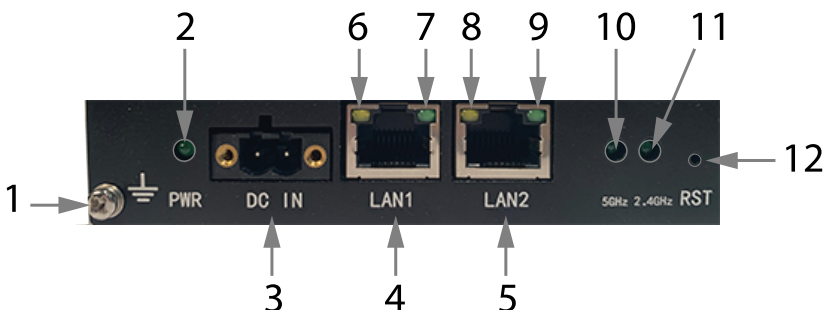

Figure 4.2 GW66 side access panel.
2. Side access panel for power and LAN connections, status LED lamps, reset button, and earth ground connection (on some versions, the earth ground connection is on the opposite side). See Figure 4.2, below, for information on this panel.